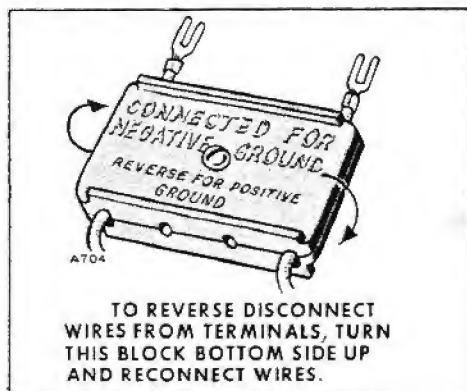
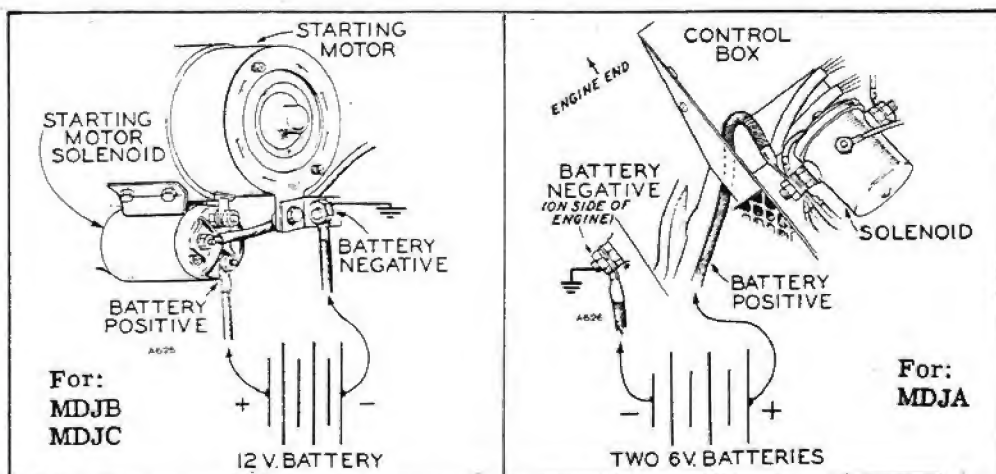

Fig. 5 Polarity Block
Fig. 6 Battery Connections
Refer to the wiring diagram and figure 6. Battery polarity connection must agree with the connection of the rectifier located in the control box. If battery ground must be changed to agree with polarity of other equipment aboard a vessel, then reverse the rectifier connection in the control, Fig. 5.
Provide a 12 volt battery. See DATA TABLE 1 for minimum battery amperes. Connect the battery positive (+) to the starter engaging solenoid terminal post, figure 6. Connect the battery negative (-) to a good ground on the engine.
**BATTERY CONNECTION (Exciter Cranked Plant-Model MDJA).** - Refer to the wiring diagram and figure 6. If battery ground must be changed to agree with other equipment aboard a vessel, reverse the connections to the charge ammeter or remark the correct direction of charge.